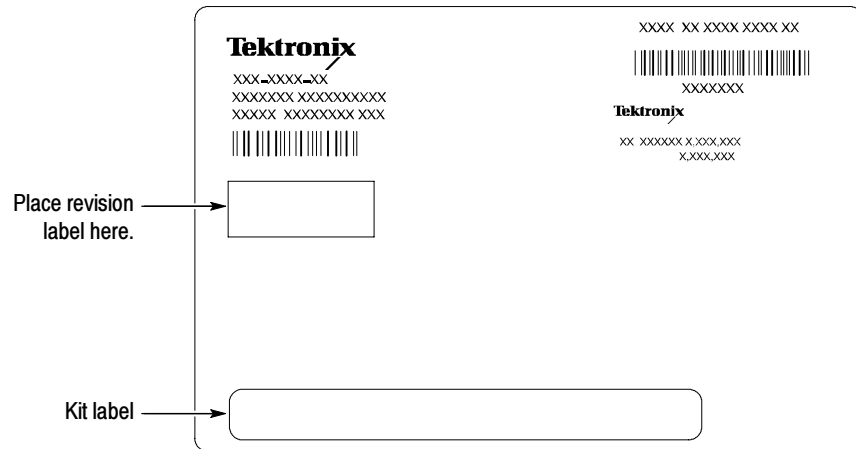

Figure 4: TLA700 or TLA7000 revision and kit label locations
4. Locate the big label on the side of the module and attach the software revision label and the kit label as shown in Figure 4. Repeat the process for each instrument module where you updated the firmware.